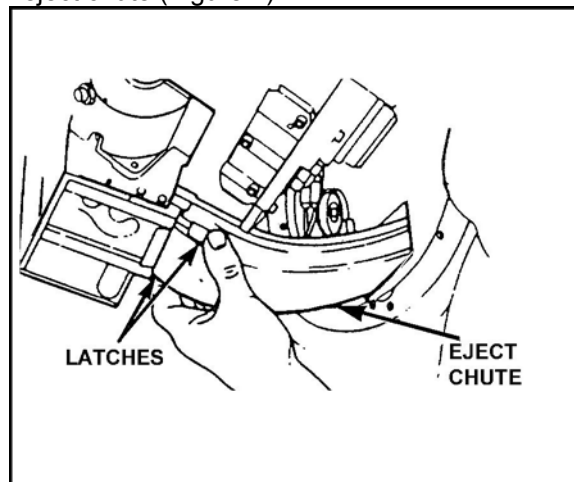

Figure 7. Latches and HE link eject chute.
- b. Detach the HE link eject chute (Figure 7).